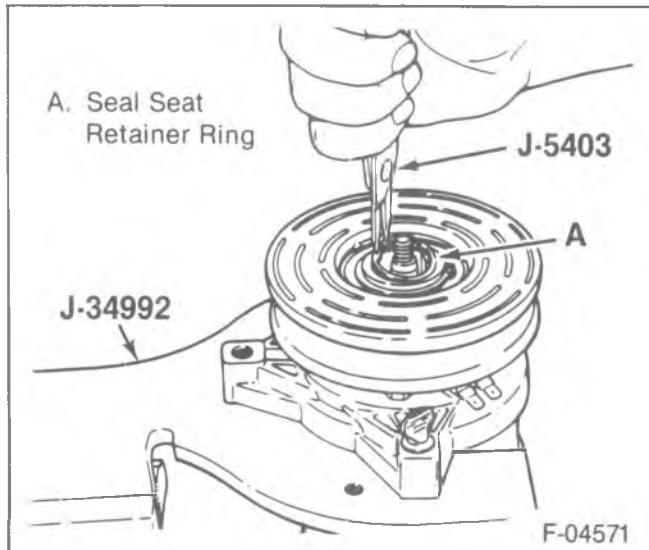
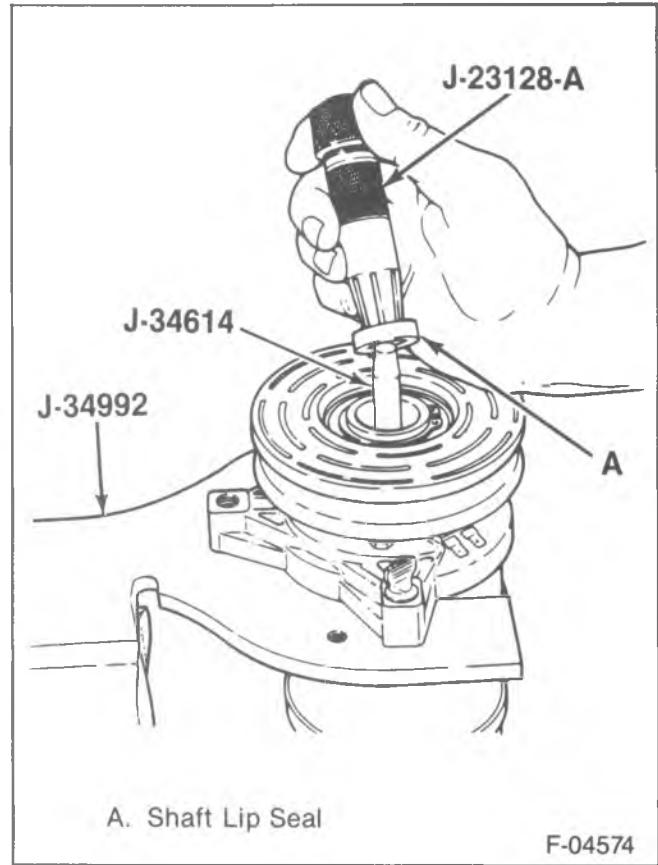

Figure 22—Removing or Installing the Shaft Seal Seat Retainer
Figure 23—Removing or Installing the Shaft Seal
1. Clutch plate and hub assembly (22).
- Install J-34614 over the threaded end of the shaft (38).
2. Shaft seal retainer ring using J-5403 (figure 22).
- Clean the compressor neck area around the shaft (38), the exposed part of the shaft seal (29) and the O-ring seal groove.
3. Shaft lip seal using J-23128-A (figure 23).
- 3. Shaft lip seal using J-23128-A (figure 22).